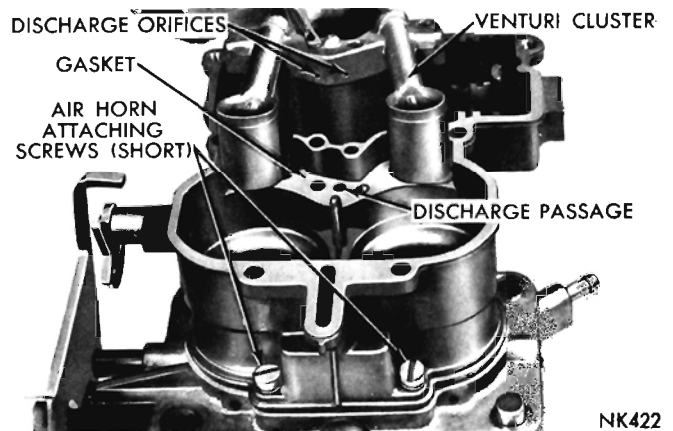
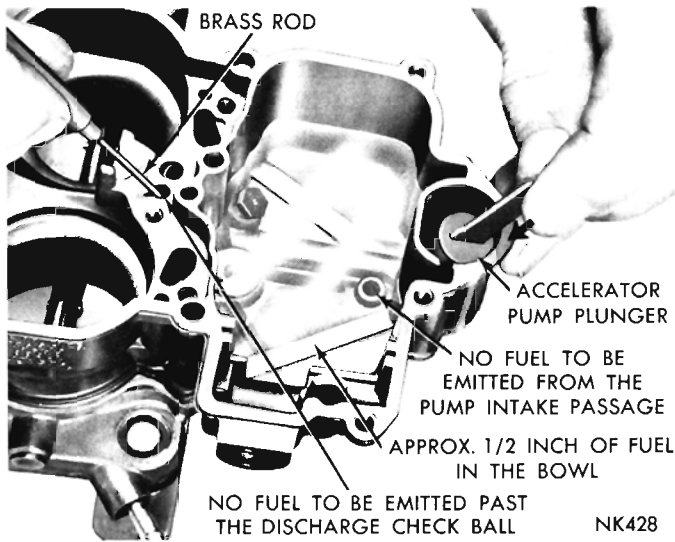

Fig. 6—Removing or Installing the Venturi Cluster
Fig. 14—Testing Accelerator Pump Discharge and Inlet Check Balls
(1) Remove the float fulcrum pin spring, then remove the fuel inlet needle valve, seat and gasket.
(2) Slide the float baffle up out of its grooves, then remove the float and fulcrum pin.
(3) Remove the venturi cluster attaching screws, then remove the venturi cluster gasket, as shown in (Fig. 6). Discard the gasket.
(4) Invert the carburetor main body and drop out the discharge check ball from the discharge passage, refer to (Fig. 6), and the accelerator pump inlet check ball from the pump well.
(1) Pour clean gasoline into the carburetor bowl approximately 1/2 inch deep. Remove the accelerator pump plunger from the jar of gasoline and slide down in its well. Raise the plunger and press lightly in the plunger shaft to expel the air from the pump passage.
(2) Using a small clean brass rod, hold the discharge check ball firmly down on its seat. Raise the pump plunger and press downward. No fuel should be emitted from either the intake or discharge passage, as shown in (Fig. 14).
(3) If any fuel does emit from either the intake or discharge passages, it indicates the presence of dirt or an imperfect seat. The passages should be recleaned and then thoroughly blown out with compressed air. Examine the ball seat for signs of damage that would not allow the check ball to seat properly.
(4) Reinstall the check ball and test again. If still leaking, place a piece of drill rod down on the check ball and rap sharply with a hammer. Remove the old check ball and install a new one. Then retest. (This operation forms a new ball seat in the carburetor casting.)
(5) Install the venturi cluster gasket, then slide the venturi cluster down into position. Install attaching screws and tighten securely. Refer to (Fig. 6).